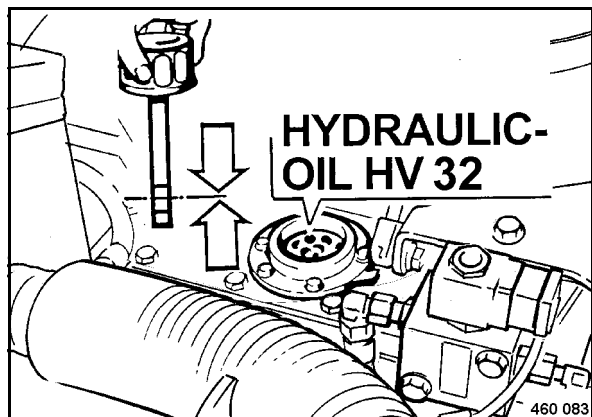

Fig. 124
- Fill in new hydraulic oil (Fig. 124).